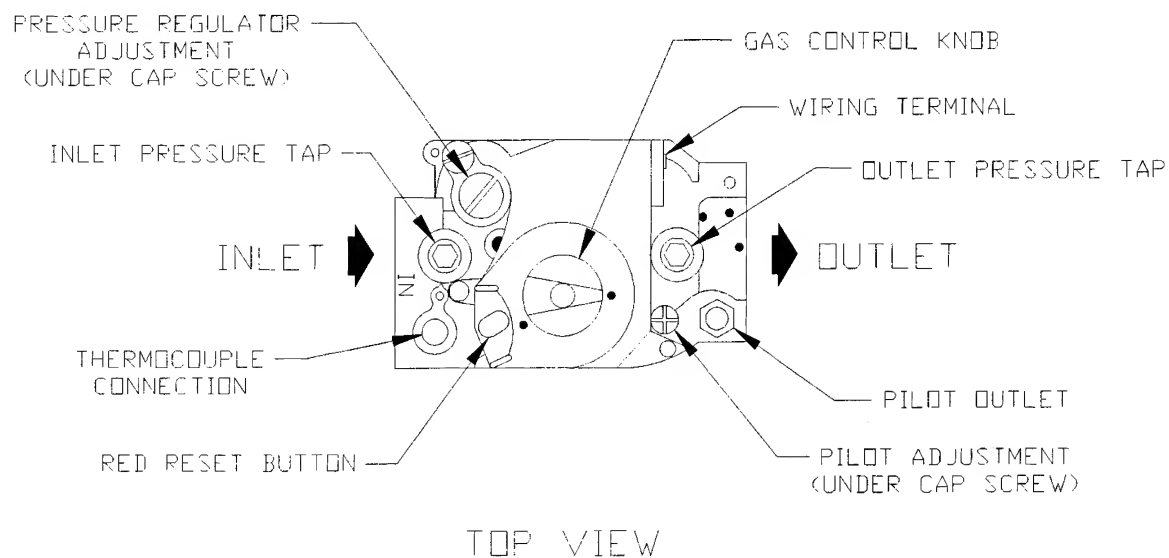

FIGURE 19: GAS VALVE DETAIL - STANDING PILOT
- a) Connect a manometer to the line pressure tap on the gas valve (see Figures 19 and 20).
- c) Connect a manometer to the manifold (outlet) pressure tap on the gas valve (see Figures 19 and 20).